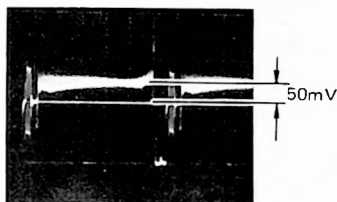

Fig. 4-4-26
- Adjust Y. PED VR229 so that the dark (Pedestal) level is 50mV. (Fig. 4-4-26)